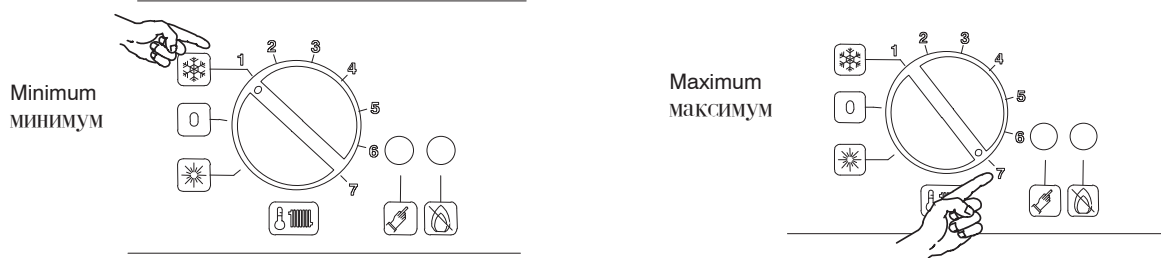

Fig. 2-6
The output temperature of c.h. water is adjustable from a minimum of about 38°C to a maximum of about 80°C (Fig. 2-6), by turning the knob (7).